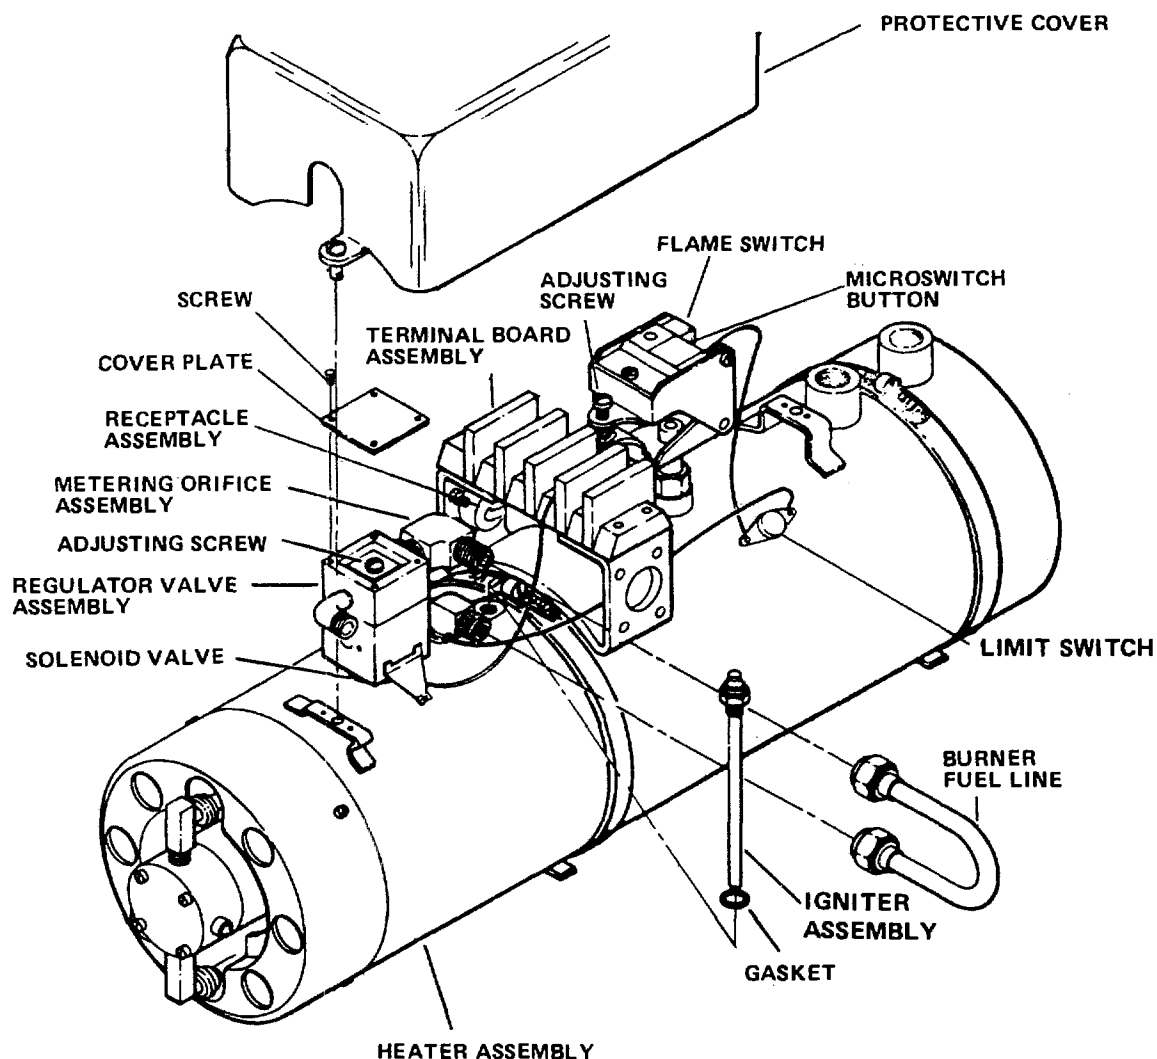

Figure 5-3. Fuel Burning Winterization Kit Heater Assembly, Maintenance
5-9. **REGULATOR VALVE ASSEMBLY.** Adjust the regulator valve assembly (see figure 5-3) as follows:
h. If flow is not within specified limits, rotate adjusting screw (figure 5-3) to obtain proper flow rate.
j. Install burner fuel line (figure 5-3).
5-10. TERMINAL BOARD. Inspect the terminal board (see figure 5-3) for cracks, carbon deposits on terminals, loose connections, or other obvious damage.
5-11. LIMIT SWITCH. The following paragraphs provide inspection and test procedures for the limit switch (see figure 5-3).
(1) Remove protective cover (figure 5-3) by loosening two captive screws.
(2) Tag and disconnect electrical leads to switch.
(3) Using a multimeter, check switch for continuity.
(4) Reconnect electrical leads to switch.
(5) Install protective cover by tightening two captive screws.
5-12. RECEPTACLE ASSEMBLY. The following paragraphs provide inspection, test, and replacement procedures for the receptacle assembly (figure 5-3)
5-14. FLAME SWITCH. The following paragraphs provide test and adjustment procedures for the flame switch (see figure 5-3).
(1) Remove protective cover (see figure 5-3) by loosening two captive screws.
(2) Rotate flame switch adjusting screw counterclockwise until heater motor starts.
(3) Rotate adjusting screw clockwise until motor stops.
(4) Give adjusting screw an additional 1/2 (180 degree) turn.
(5) Reinstall protective cover by tightening two captive screws.